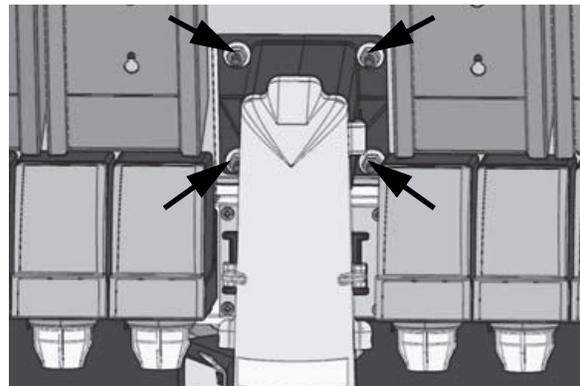

Figure 48.
4. Remove the four nuts that mount the ice chute assembly to the unit as shown in Figure 48.